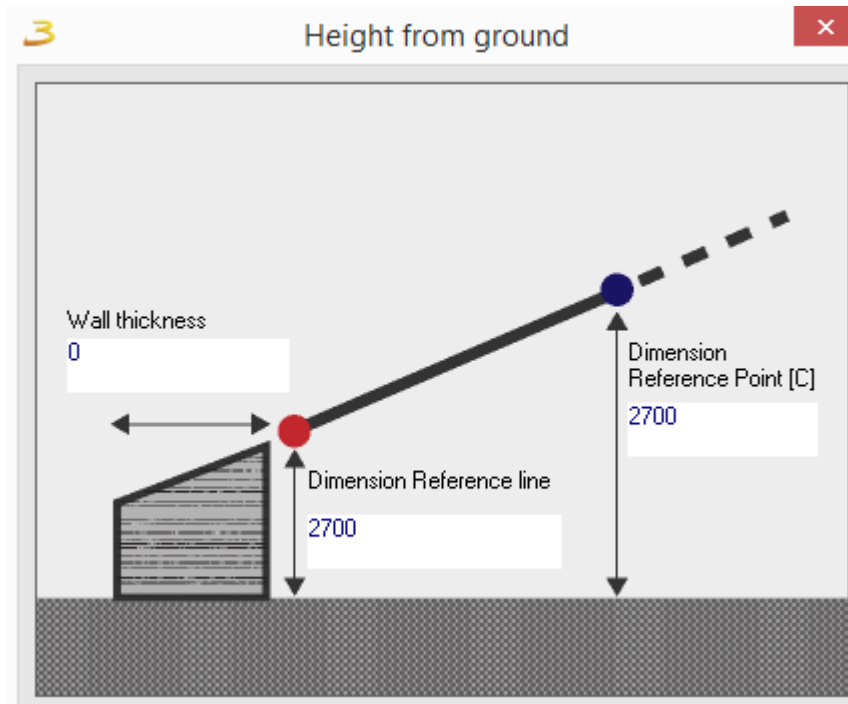

Figure 6.6: Setting the ramp height.
A notice will appear at the end of this operation, requesting to select a point for the dimension (height) and then a window as shown in figure 6.6 is displayed, where to specify the parameters to make the slope.
- ✓ First of all to create a sloping ceiling it is required to set the walls at the maximum required height (carry out a multiple selection with the SHIFT button + mouse click and press F1 to enter into the rule and modify the wall height parameter) then, after selecting the sloping wall icon, the ceiling vertexes are inserted, bearing in mind, that each couple of vertexes will have a different height. Once the ceiling area has been defined this message will appear *"Select a point to set dimensions"*. At this point the height of the blue vertexes defining the red reference line and of the two pink opposite vertexes are required. It is necessary to left click on one of the pink dots in order to open the dialog window from which to insert the heights of the vertexes (see Figure 6.6).
The *Height from ground* (fig. 6.6) window will only appear if one of the pink dots are selected, any other selection will void the possibility to change the height of the vertexes. At any time it is possible to repeat this operation by simply selecting the ceiling and pressing the mouse right button and select the menu entry "Set height...".